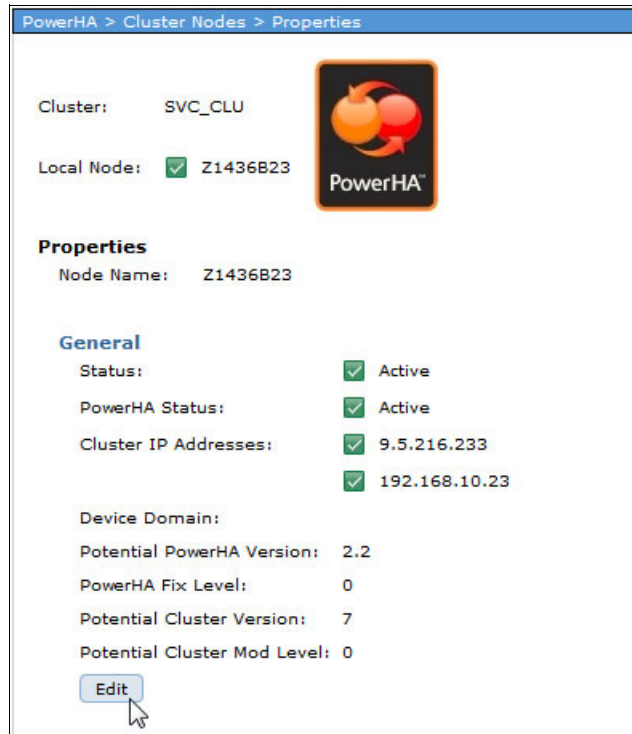

Figure 4-18 Cluster node properties
15. Figure 4-18 shows the properties for cluster node Z1436B23 from our example. There is no entry for the device domain. Click **Edit**.